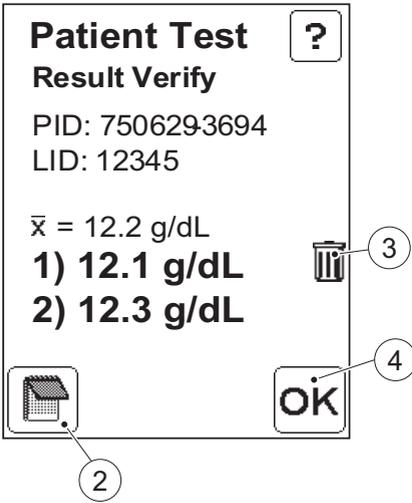

FIGURE 6-23
- f) FIGURE 6-23 will be displayed.